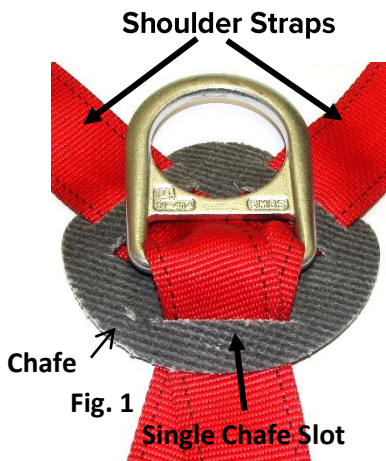

Fig. 1
1. Position harness on a flat surface with the shoulder straps of the harness on top and the Dorsal Fall Arrest Attachment facing up (Fig. 1)